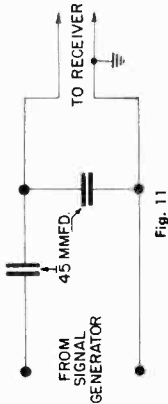

Fig. 11
3. Connect signal generator leads through dummy illustrated in Figure 11 to antenna receptacle on the receiver.
Figure 11 shows the schematic of a recommended dummy antenna, closely resembling actual antenna capacity, to be used in series with signal generator leads when aligning the R.F. section of the receiver.
1. Connect signal generator leads through dummy illustrated in Fig. 11 to antenna lead in socket on receiver.